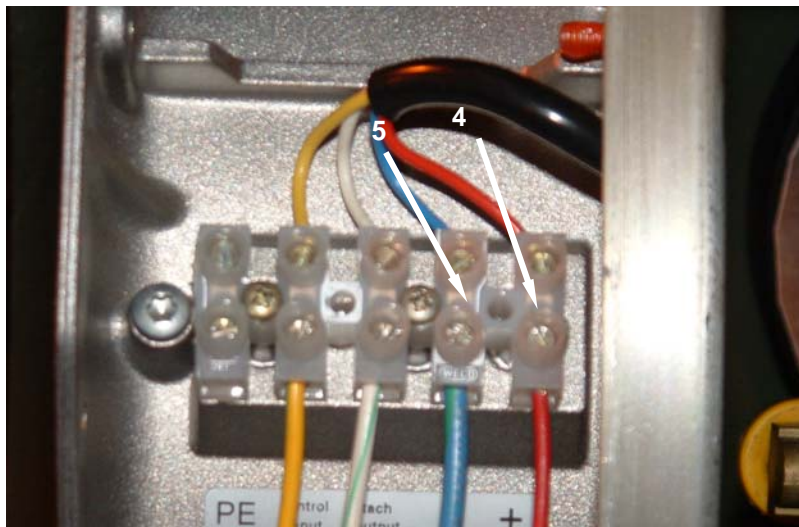

Figure 1. Heated Air Blower Assembly.
2. Tag and disconnect the harness wiring connected to the positive terminal (**Figure 1, Item 4**) and the negative terminal (**Figure 1, Item 5**).
3. Place probe No. 1 against positive terminal (**Figure 1, Item 4**) and probe No. 2 against negative terminal (**Figure 1, Item 5**). Normal meter indication is a minimum of 5.2 megaohms.
4. If meter reading indicates a short or an open circuit, replace heated air blower assembly (**Figure 1, Item 1**).